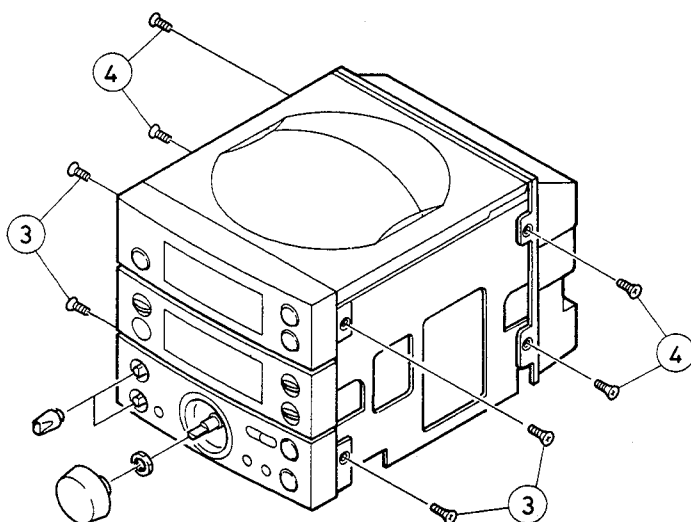

Fig. 7-2
2. Pull out three knobs of the sound volume control and the tone quality controls (treble and bass). (Fig. 7-2)
3. Remove four screws (3) retaining the front panel.
4. Remove four screws (4) retaining the rear panel.
### ■ Rear panel (Fig. 7-2)